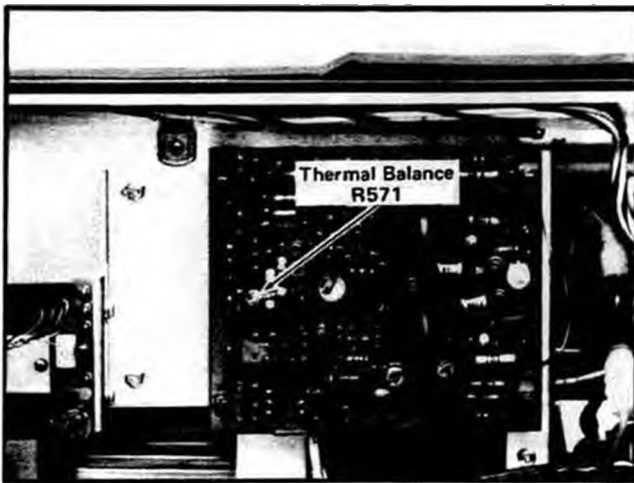

Fig. 5-13. Location of Horizontal Amplifier Thermal Balance adjustment R571.
l. ADJUST—Thermal Balance adjustment R571 (see Fig. 5-13) for minimum movement of the readout characters (if available) and the displayed time markers.
q. ADJUST—Compromise the setting of the Thermal Balance adjustment R571 (see Fig. 5-13) as set in step l to provide minimum horizontal movement of the readout characters and the displayed time markers.